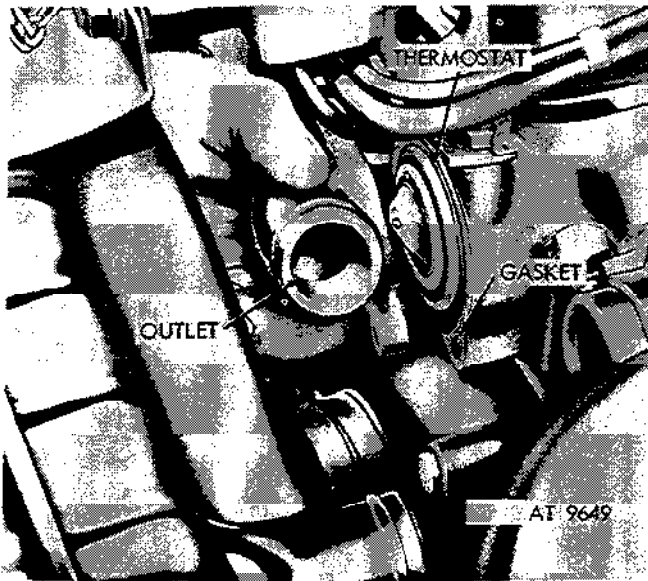

Figure 2-138. Remove thermostat.
(4) Remove coolant outlet and gasket. Discard gasket (fig. 2-138).
(5) Remove thermostat from cylinder head (fig. 2-138).